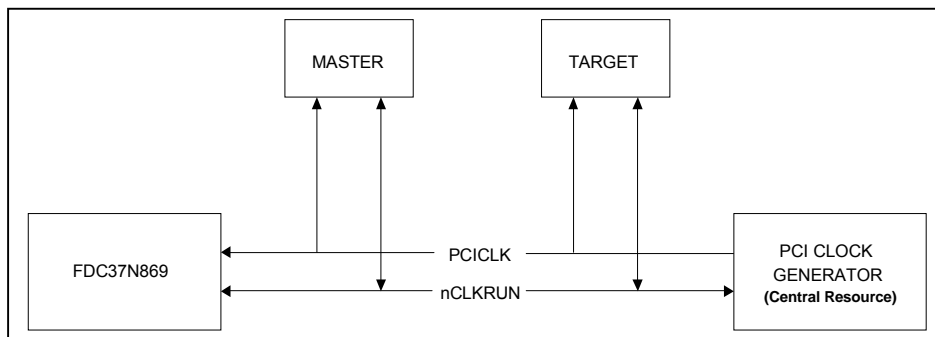
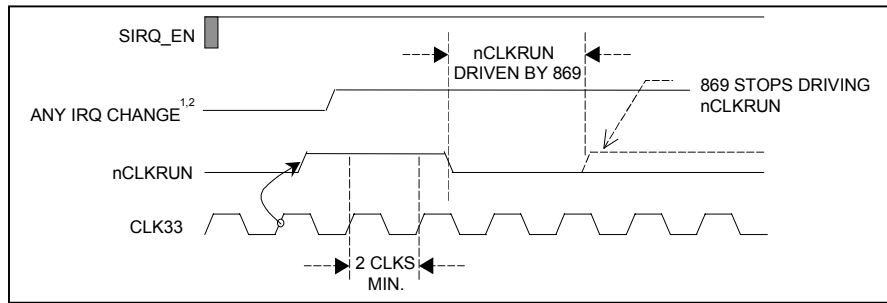

FIGURE 6 - nCLKRUN SYSTEM IMPLEMENTATION EXAMPLE
FIGURE 7 - CLOCK START ILLUSTRATION
The FDC37N3869 supports the PCI nCLKRUN signal. nCLKRUN is used to indicate the PCI clock status as well as to request that a stopped clock be started. See Figure 6 for an example of a typical system implementation using nCLKRUN.
If nCLKRUN is sampled “high”, the PCI clock is stopped or stopping. If nCLKRUN is sampled “low”, the PCI clock is starting or started (running). If a device in the FDC37N3869 asserts or de-asserts an interrupt and nCLKRUN is sample “high”, the FDC37N3869 can request the restoration of the clock by asserting the nCLKRUN signal asynchronously Table 74). The FDC37N3869 holds nCLKRUN low until it detects two rising edges of the clock. After the second clock edge, the FDC37N3869 must disable the open drain driver (Figure 7).
The FDC37N3869 must not assert nCLKRUN if it is already driven low by the central resource; i.e., the PCI CLOCK GENERATOR in Figure 6. The FDC37N3869 must not assert nCLKRUN unless the line has been deasserted for two successive clocks; i.e., before the clock was stopped (Figure 7).
- Note 2:** The FDC37N3869 must continually monitor the state of nCLKRUN to maintain the PCI Clock until an active “ANY IRQ CHANGE” condition has been transferred to the host in a Serial IRQ cycle. For example, if “ANY IRQ CHANGE” is asserted before nCLKRUN is de-asserted (not shown in Figure 7), the FDC37N3869 must assert nCLKRUN as needed until the Serial IRQ cycle has completed.